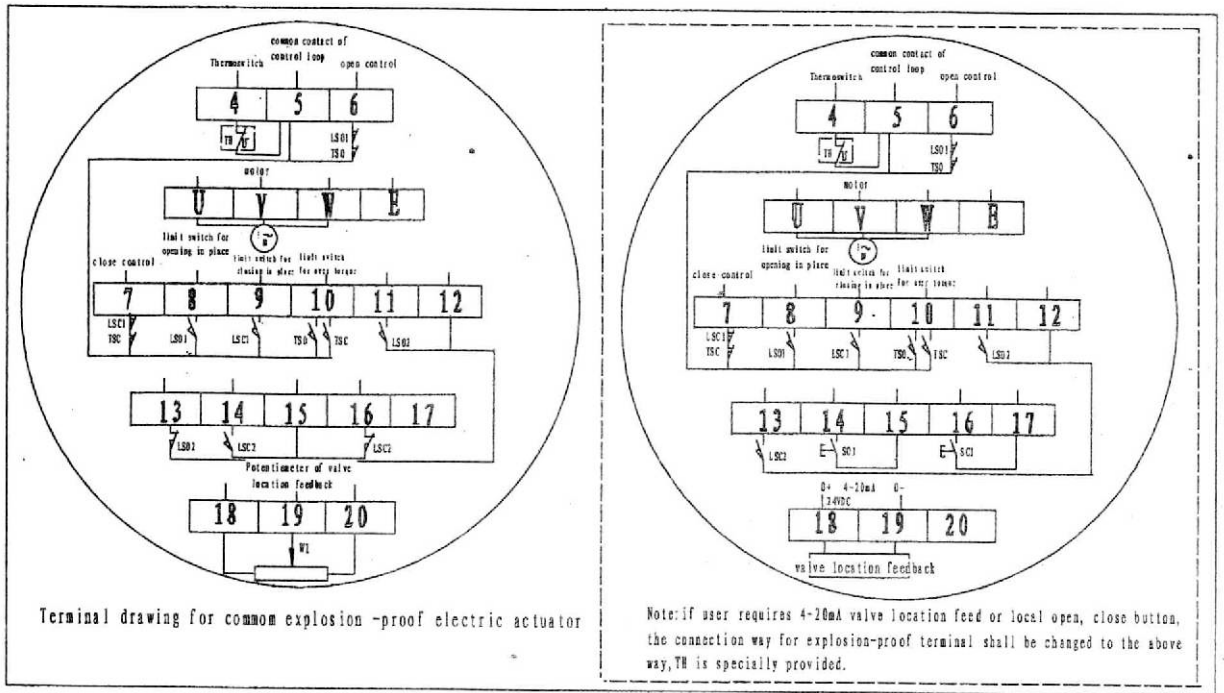

Figure 14
5.9.2 Refer to the Figure 14 for the connection diagram of explosion-proof type electric actuator.